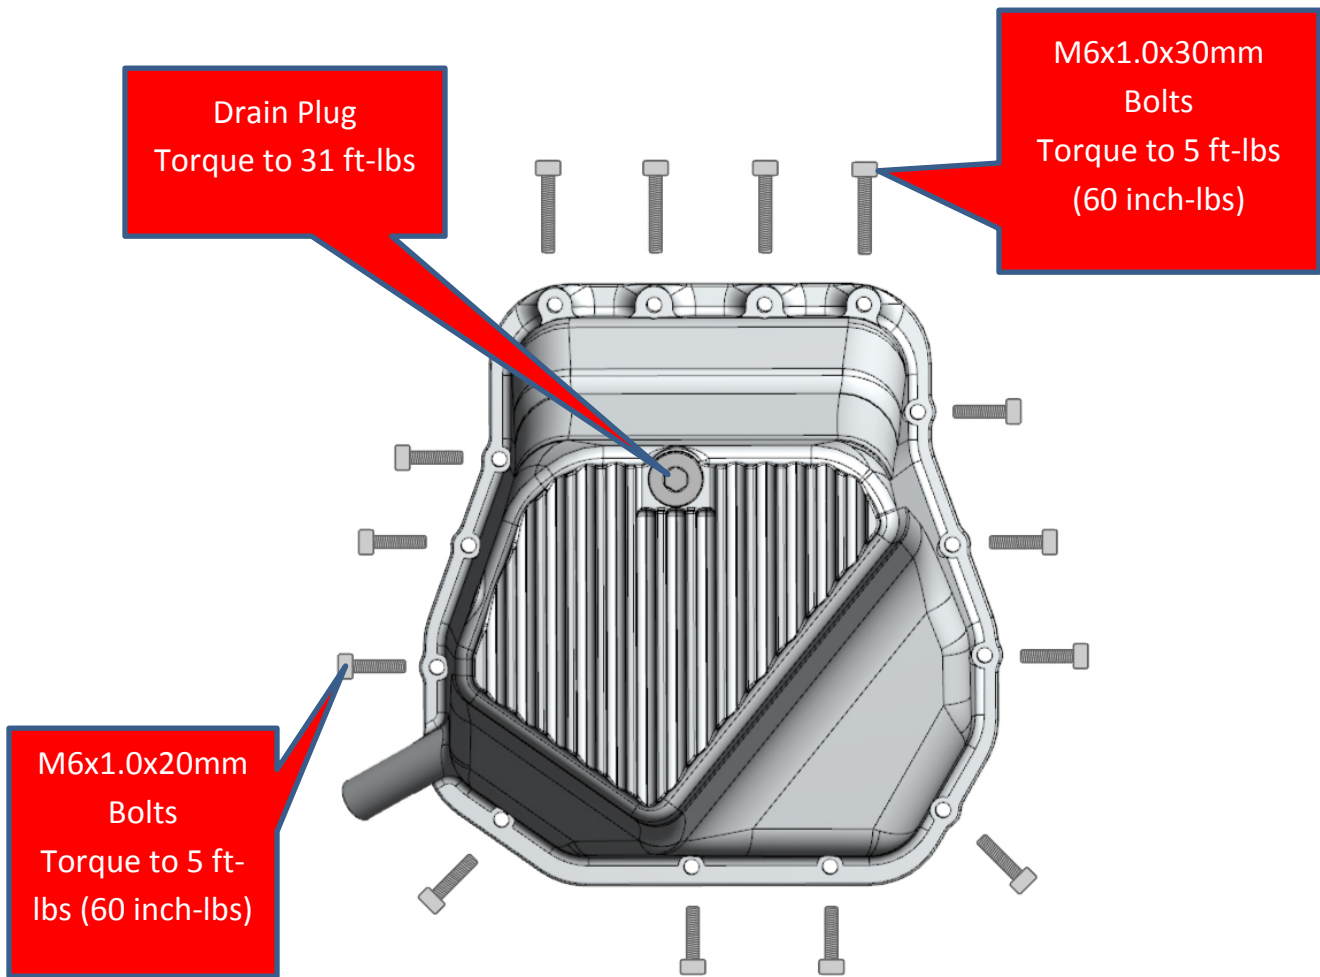

Figure 6
13. Install the oil pickup spacer (See Fig. 6)